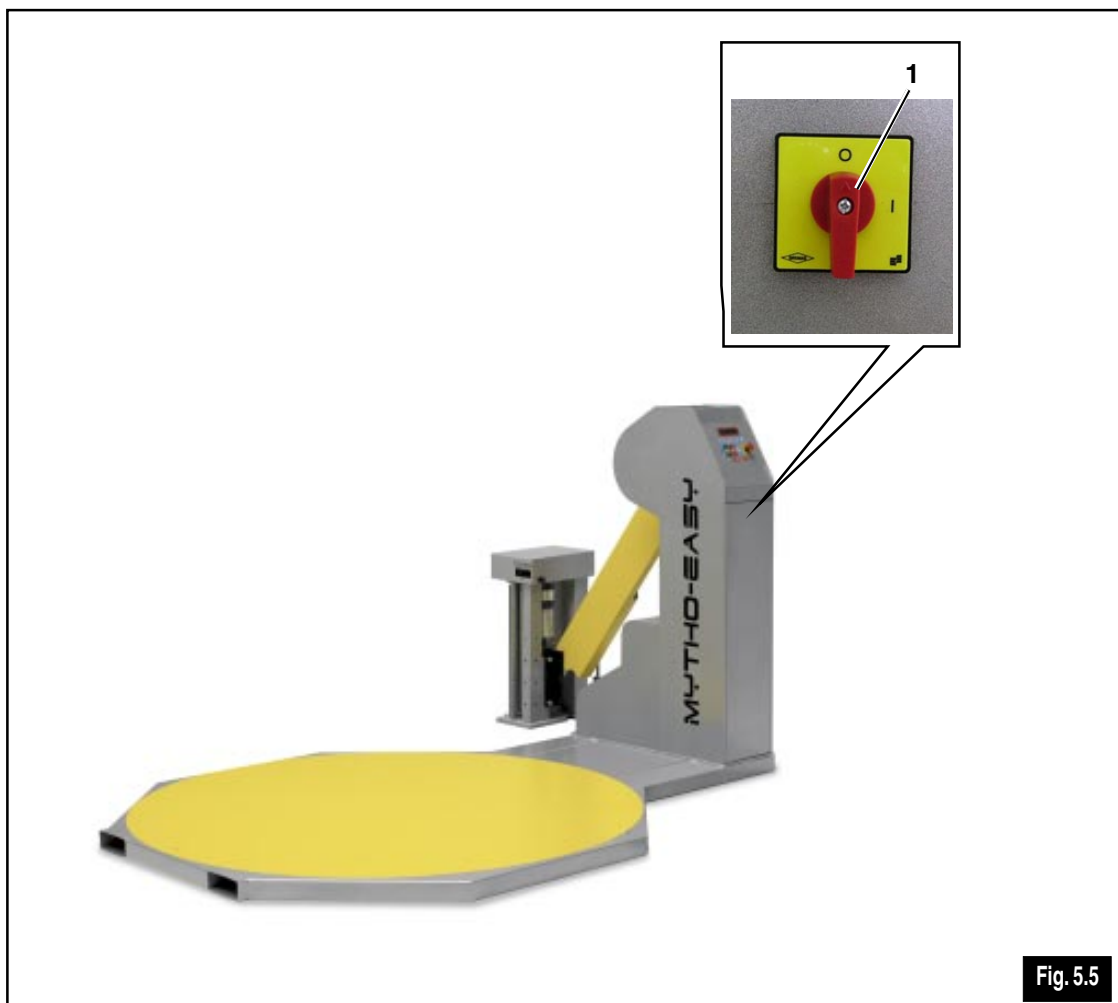

Fig. 5.5
Figure 5.5 indicates the location of the Emergency switch (1).